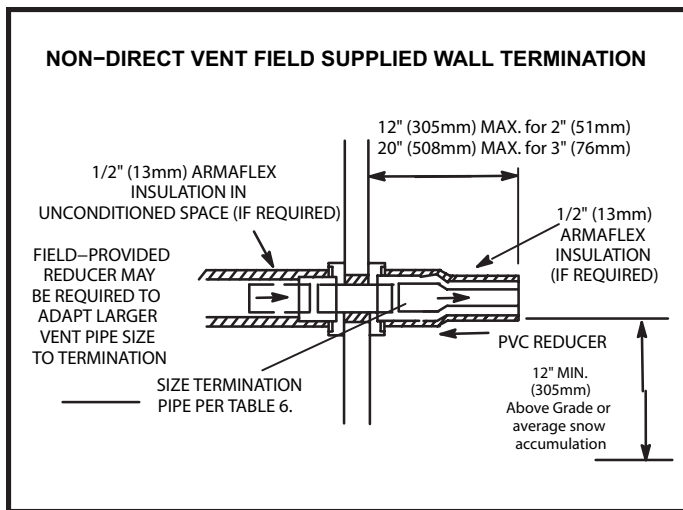

Figure 40
2. On field supplied terminations for side wall exit, exhaust piping may extend a maximum of 12 inches (305 mm) for 2" PVC and 20" (508 mm) for 3" (76 mm) PVC beyond the outside wall. See Figure 40.